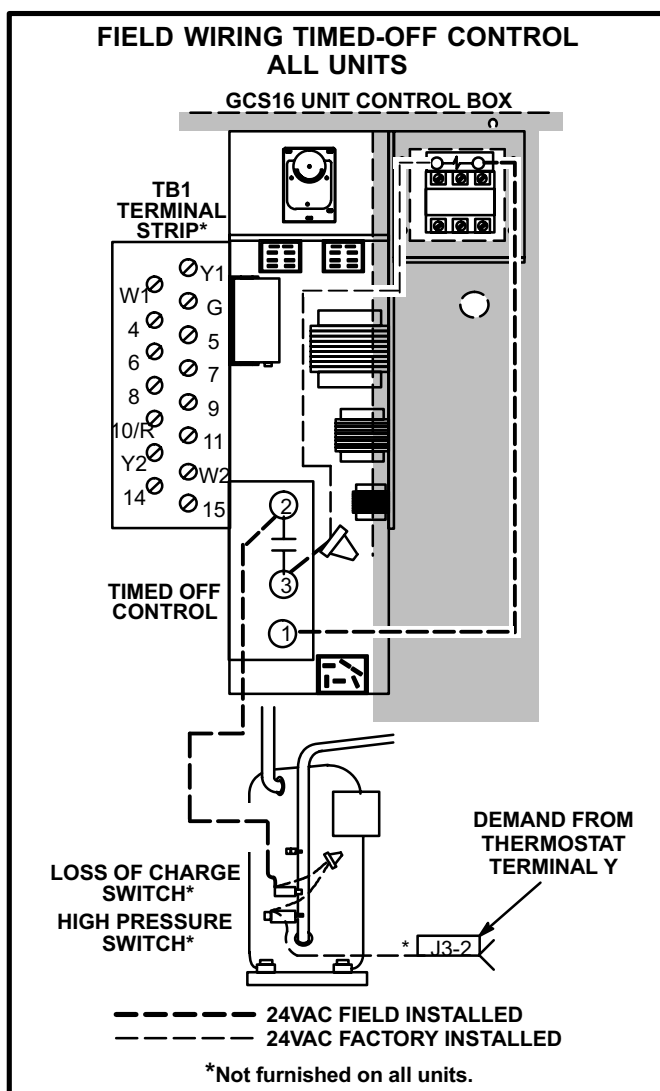

FIGURE 68
K-Timed-Off Control Kit (Figure 68)
- 2- Make wiring connections per wiring diagram in figure 68.